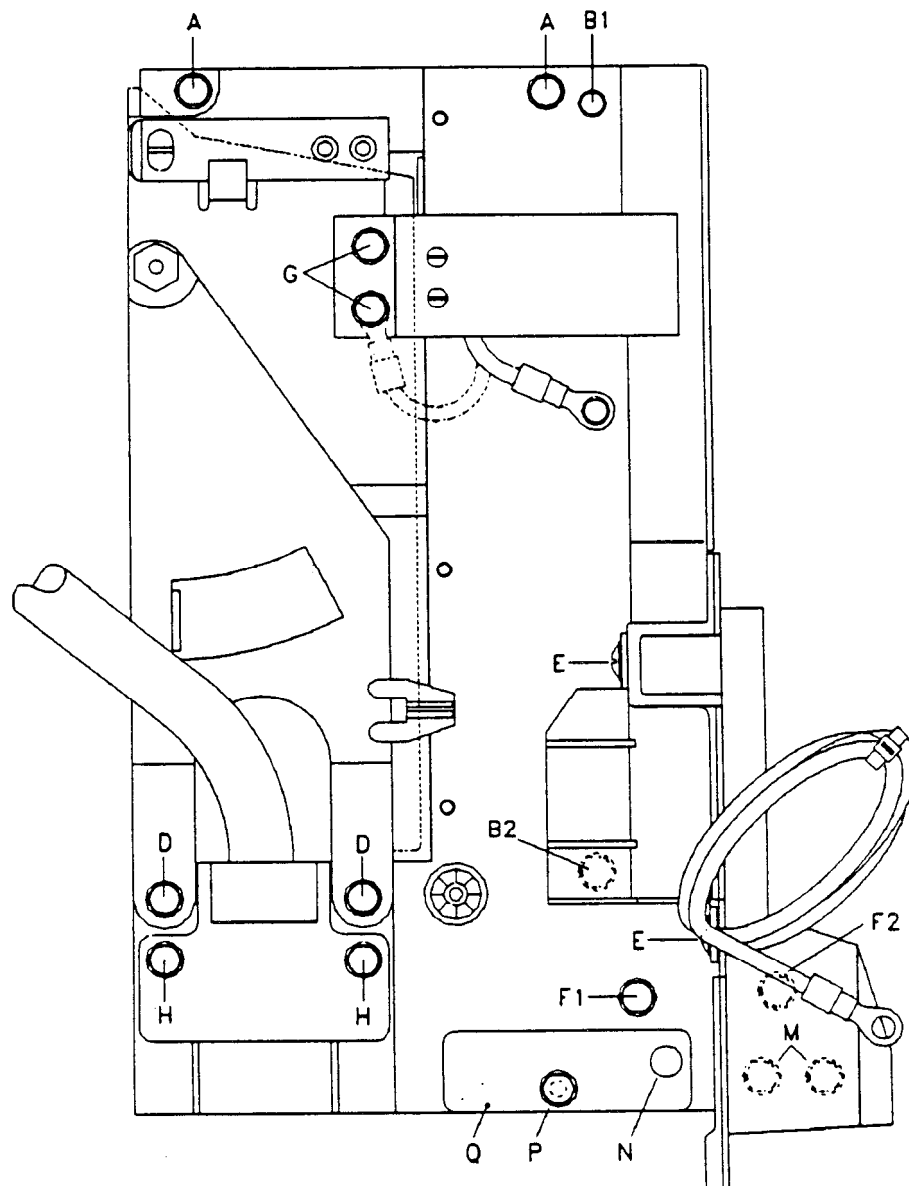

Figure 1. Mounting Screws - Left Side Plate
This bulletin describes changing the black plastic tension levers on the USA³ and DBA acceptors. This bulletin does not apply to the USA and USA-15 acceptors, which use metal tension arms. Refer to the figures as needed. Note: Remove only those screws in Figure 1 which you are instructed to remove. Do not loosen any other screws.
2. Remove the four screws (E) which hold the escutcheon to the acceptor, and lift off the escutcheon. Note the ground wire which attaches under the lower screw on the left side of the escutcheon. This wire must be reattached in the same position when you assemble the acceptor.
4. Remove the 3/16" hex head screw (Figure 1, screw "B1") from each side of the acceptor. Remove the chassis ground wire located on or beneath the cash box switch plate (this wire is shown under lower screw "G" in Figure 1.) Remove the motor drive chassis.
17. The new push-pin for the pivot post is metal. Insert the push-pin into the hole in the tension arm pivot post (location "N" in Figure 1).
20. Replace the motor chassis and screw (Figure 1, screw "B1" on each side).